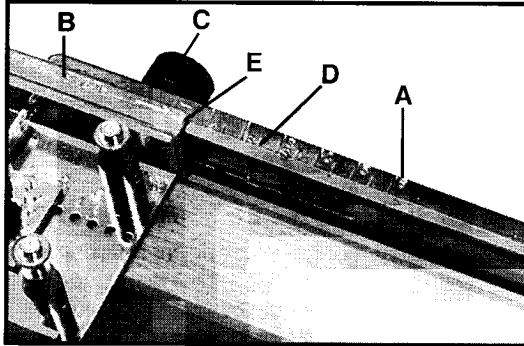

Fig. 4
4. **See Fig. 4.** Attach adjusting channel (A) with thumb screw (C) to right end of the templet section (B), which was just nailed to door. Adjust channel so the 3½" graduation line on the 5 top 10 bottom scale (D) aligns with end of templet section (E). Securely tighten thumb screw (C) being sure plunger within screw locates in recess in adjusting channel to prevent movement.
**NOTE:** When mortises for other than 3½" hinges are being made, the plunger within thumb screw (C) retracts. Care should be taken not to jar adjusting channel out of location.